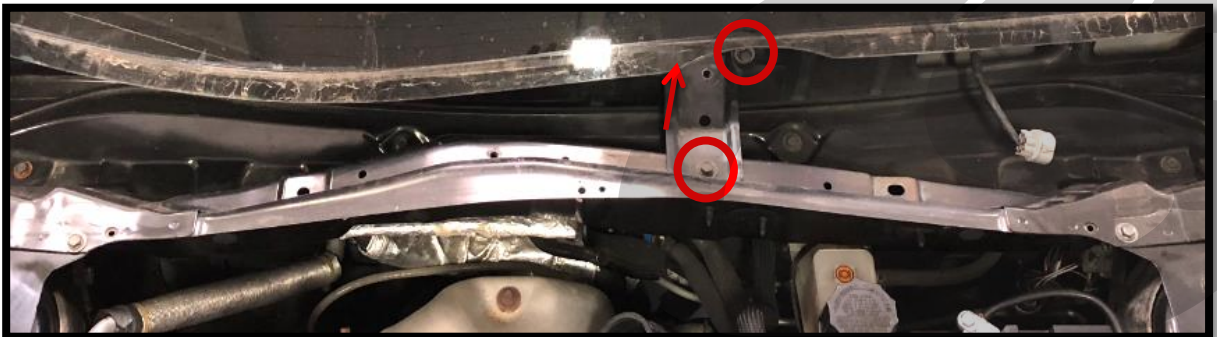

Figure 1f
- n) Remove the three 10mm bolts that attach the center cowl brace to the vehicle. **Shown in red** in **Figure 1f**. Then remove the cowl brace from the vehicle.